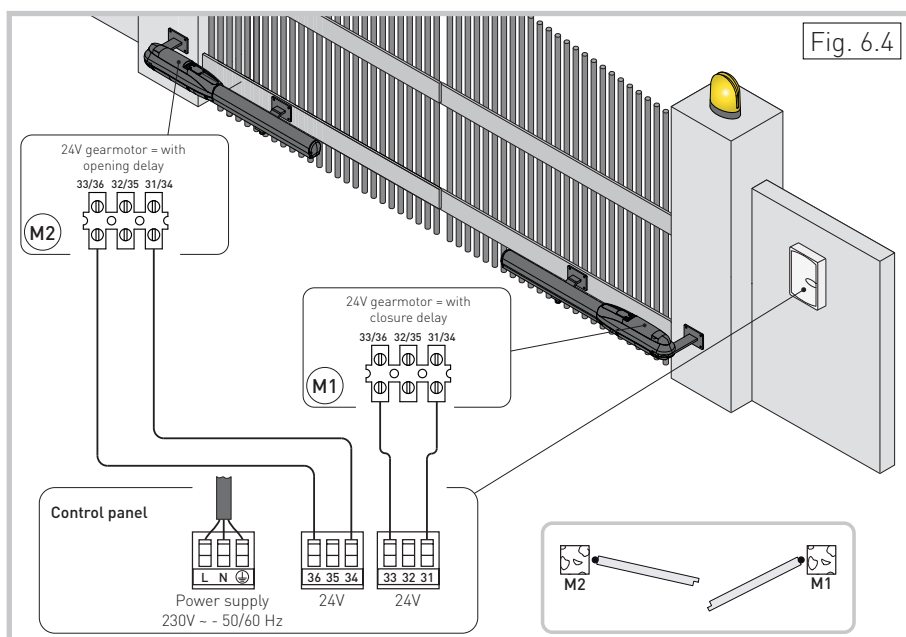

Fig. 6.4
- Connect the various wires as shown in the electrical diagram in Fig. 6.4.